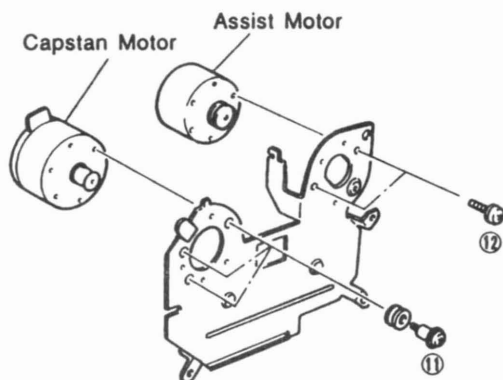

Fig. 6
- Remove 3 screws (⑪) in Fig. 6 and then remove the Capstan Motor.
- Remove 2 screws (⑫) in Fig. 6 and then remove the Assist Motor.